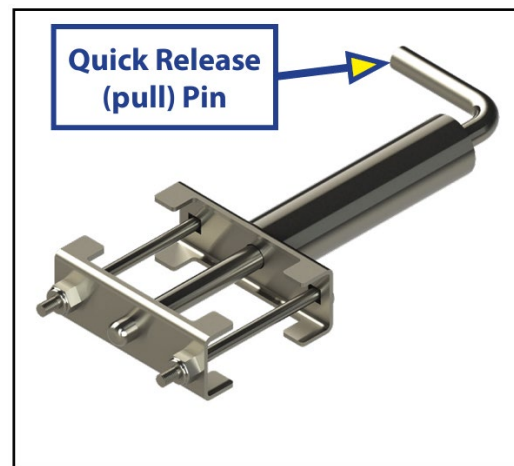

Figure 15. Quick release pin mechanism mounted on the front landing gear.
- **Drop Front Jacks** [Process]– Pressing Enter (Figure 14C) will cause this operation to start. The front jacks will ground. Be careful to lower the front pads closer to the ground before doing this using the spring pin mounted on the landing gear (Figure 15).
9. Once jacks are retracted, pull the pin (Figure 15) and retract the inner legs of the landing gear (front jacks). Make sure the pin latches again when complete.